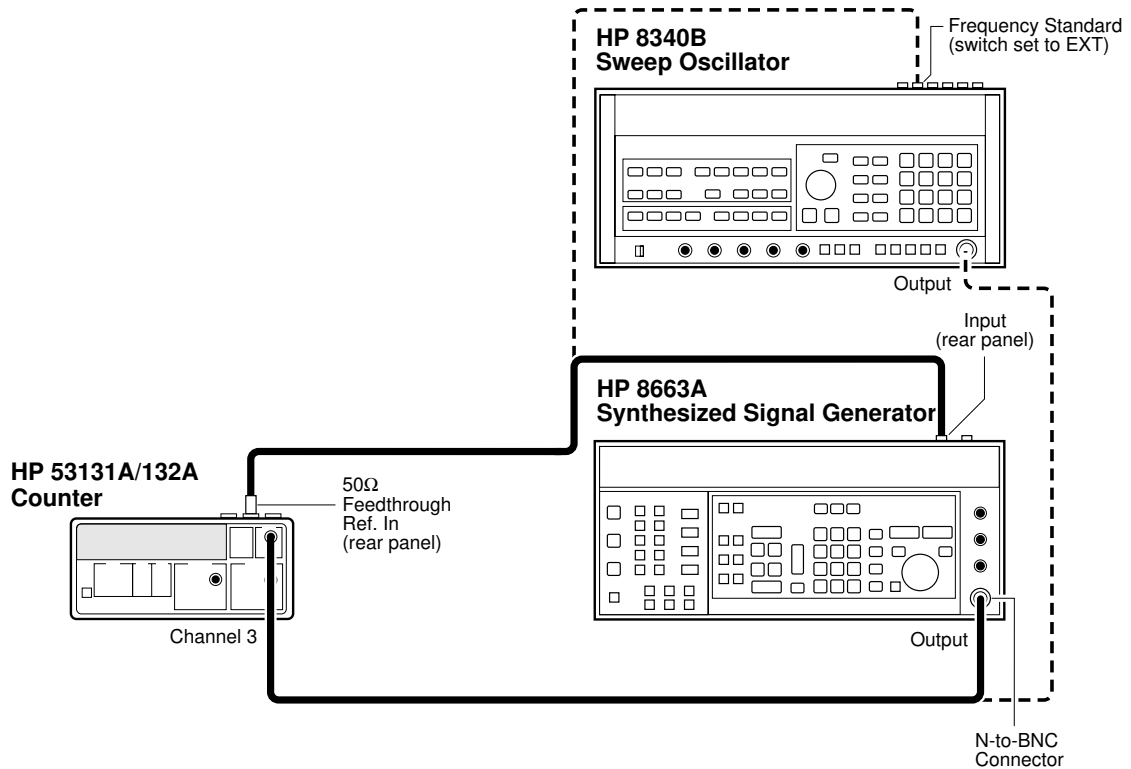

Figure 1-9. Option 030/050/124 Channel 3 Frequency Sensitivity and Accuracy Test Setup
- 1 Set the HP 8663B Synthesized Signal Generator to output a 2500 MHz, -40 dBm sine wave, and connect the signal to Channel 3 of the Counter as shown in Figure 1-9.
- 1 Disconnect the HP 8663A Synthesized Signal Generator from the Counter (see Figure 1-9), and connect the HP 8340B Sweep Oscillator to Channel 3 of the Counter.**
- 1 Connect equipment as shown in Figure 1-9.
of the Counter as shown in Figure 1-9.**